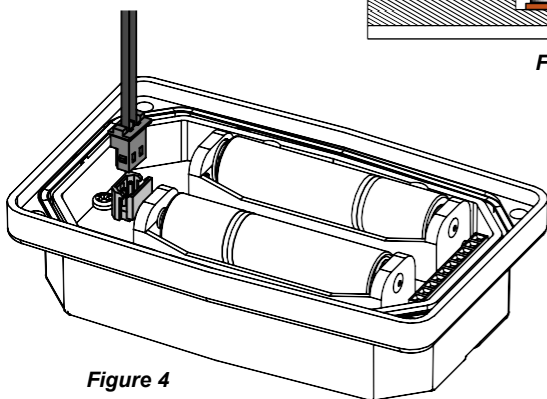

Figure 4
5. Place the battery pad into the computer mount cavity, connect the coil wire to the computer (see Figure 4), and mount the computer. Fasten the computer to the turbine through the four corner holes in the faceplate using the four screws. Make sure the seal is fully seated in the computer housing groove before tightening the screws.